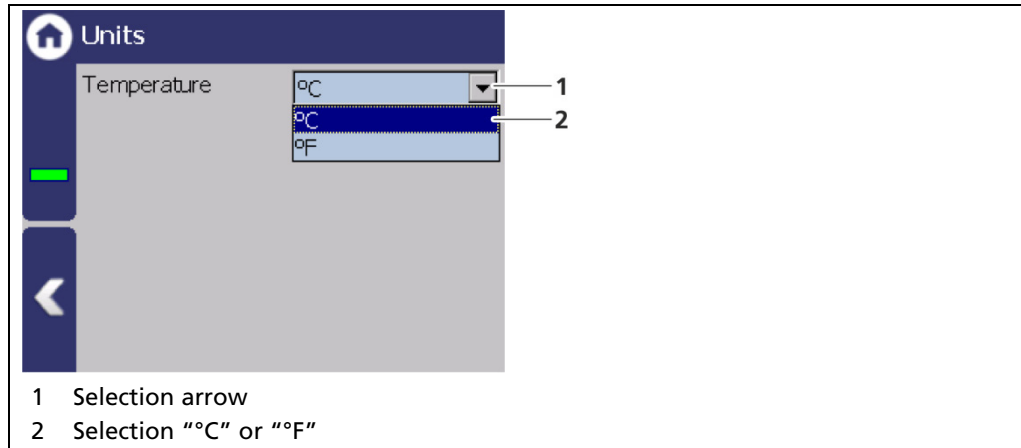

Fig. 37 Unit temperature
By activating (Fig. 37, item 1) the CE Remote Control, the unit can be operated via the network connection. The software of the remote control (RC software) is stored on the device and can be copied to a USB storage device.
- ▶ The USB storage device is recognized by the system after a few seconds and the button <Get RC software> (Fig. 37, item 2) can be clicked.
2. Click on the button <Get RC software> (Fig. 37, item 2).
In order for the Remote Control to function, the selection check mark in the menu "CE Remote Control" must be set to "Active" (Fig. 37, item 1).